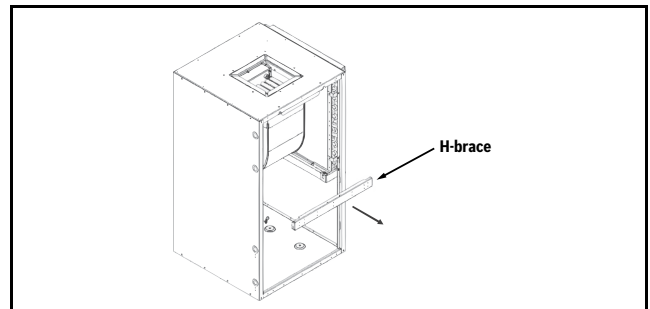

Fig. 7 H-Brace Removal
3. Pull the H-brace up and away from the slots. (→Refer to Fig. 7.)